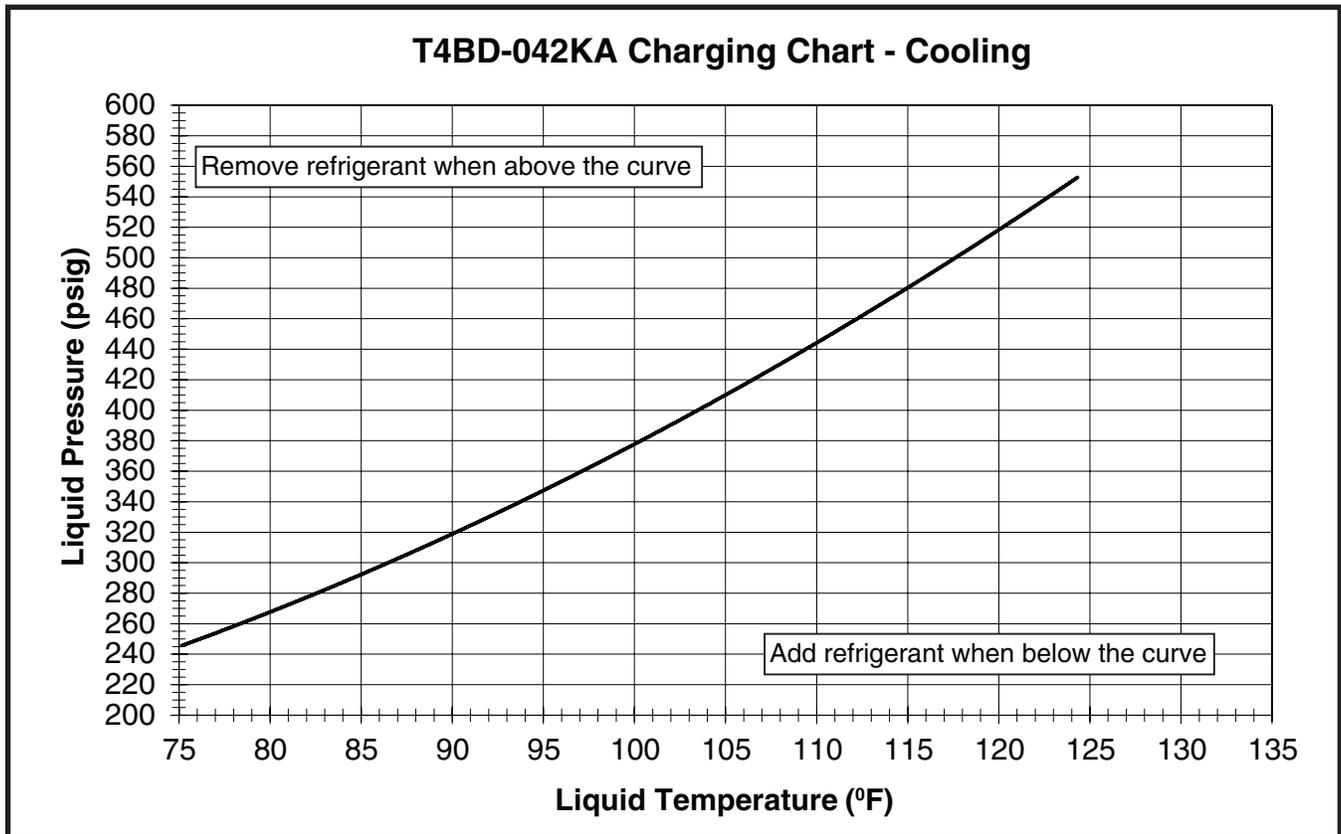
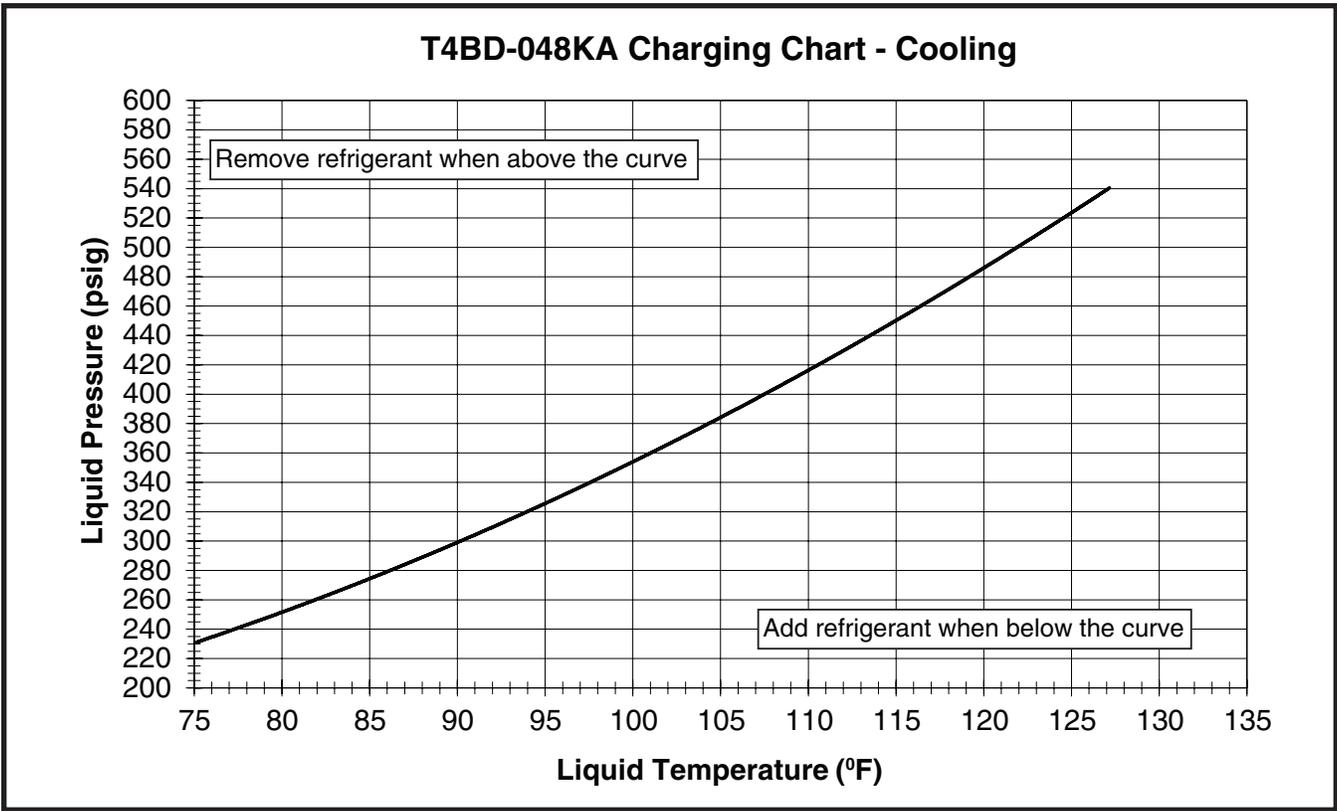
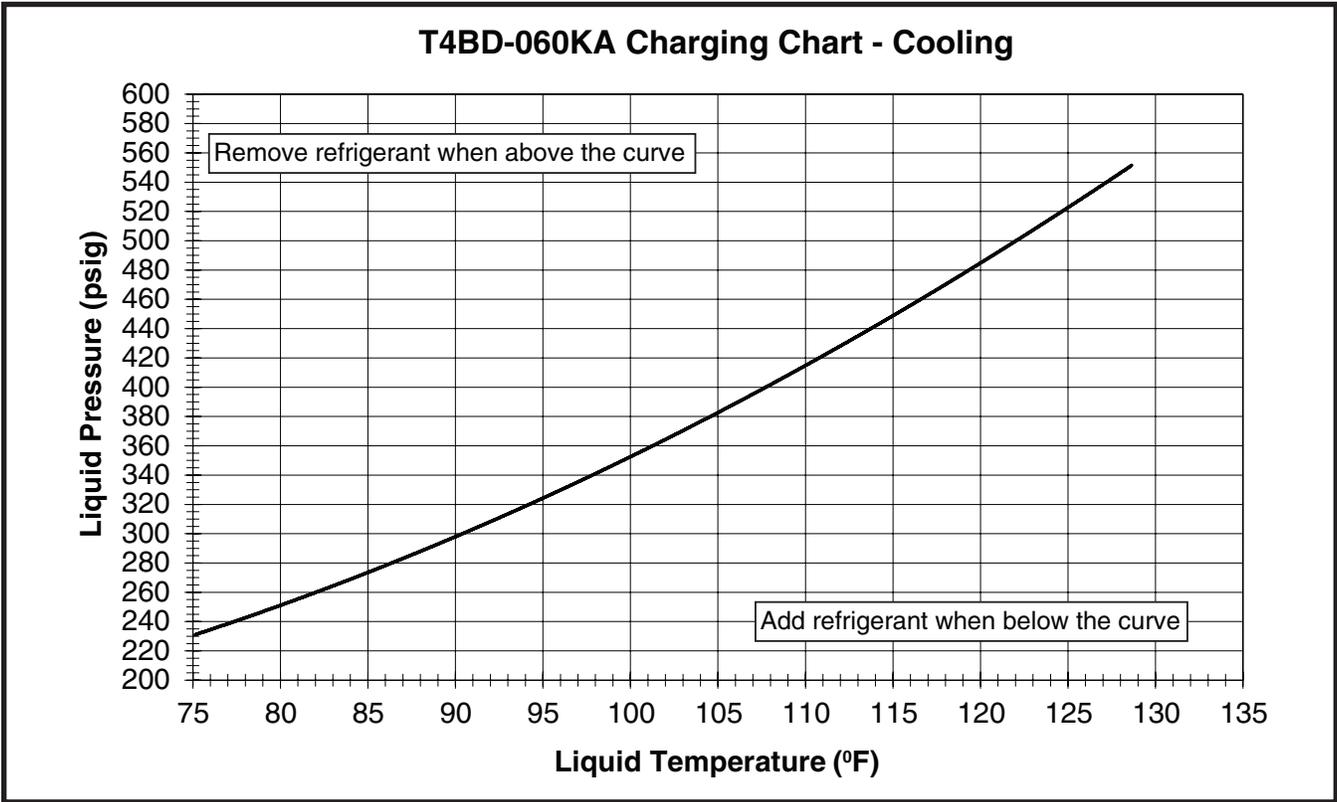

Figure 6. Charging Chart for 3.5 Ton Units
Figure 7. Charging Chart for 4 Ton Units
Figure 8. Charging Chart for 5 Ton Units
- Cooling mode charging charts are applicable only to matched assemblies of this equipment and listed airflows for the indoor coil. Refer to the Quick Reference Data sheet for additional charging information. Outdoor units with non-AHRI listed indoor coils are not recommended and deviations from rated airflows or non-listed combinations may require modification to the expansion device and refrigerant charging procedures for proper and efficient system operation. Refer to Figure 6, \(page 10\), Figure 7, \(page 11\), & Figure 8, \(page 11\) and Table 5, \(page 12\), Table 6, \(page 12\), & Table 7, \(page 13\) for correct system charging.
3. Determine the required liquid refrigerant pressure from Figure 6, \(page 10\), Figure 7, \(page 11\), & Figure 8, \(page 11\).
- The charging charts below (Figure 6, Figure 7, & Figure 8 are valid for a variety of indoor, return air conditions and are most influenced by the outdoor ambient temperature, outdoor fan operation and the unit operating voltage. Before using these charts, make sure the unit is in a stable operating mode. As shown in the charts, the ideal system sub-cooling can vary over the range of operation. Reference the charts to determine the ideal amount of sub-cooling for a given liquid pressure. Units charged to other values will not perform at the rated unit efficiency (EER) or rated Coefficient of Performance (COP) in heating mode.